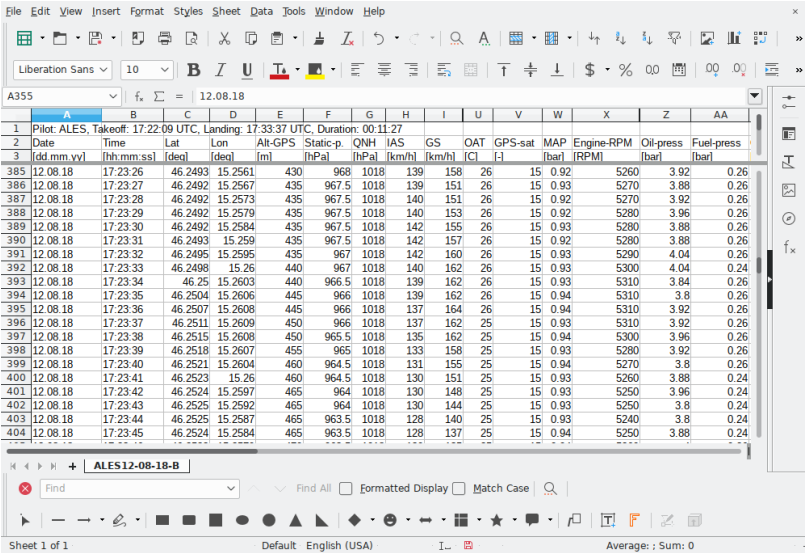

Figure 47: An example of flight details upon successful import.
- The result of the import is then shown on Figure 47. Some column widths were adjusted and some cells were hidden.